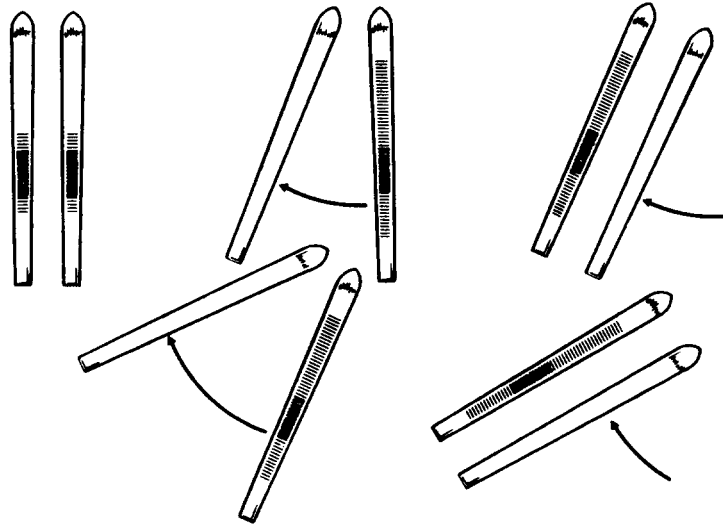

Figure 5-9 Step Turn Using the Tips as a Pivot
1. The step turn is the simplest method of changing direction from a stationary position. It is of particular value in brush and other confined areas (see Figures 5-9 and 5-10).